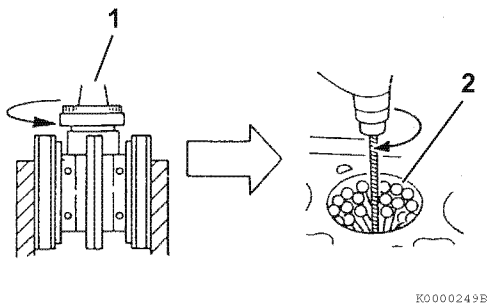

Figure 6-84
2. **Honing** - Minor cylinder imperfections may be corrected by using a rigid cylinder hone (**Figure 6-84, (1)**). Be sure not to exceed the maximum cylinder bore specification.
Deglazing - A used cylinder that did not require boring or honing, should always be deglazed with a ball hone (**Figure 6-84, (2)**) before installing new piston rings. This will properly prepare the cylinder surface to allow new piston rings to seat properly.
- Use a 300-grit hone at 300 - 1200 min⁻¹ (rpm) (**Figure 6-84**).